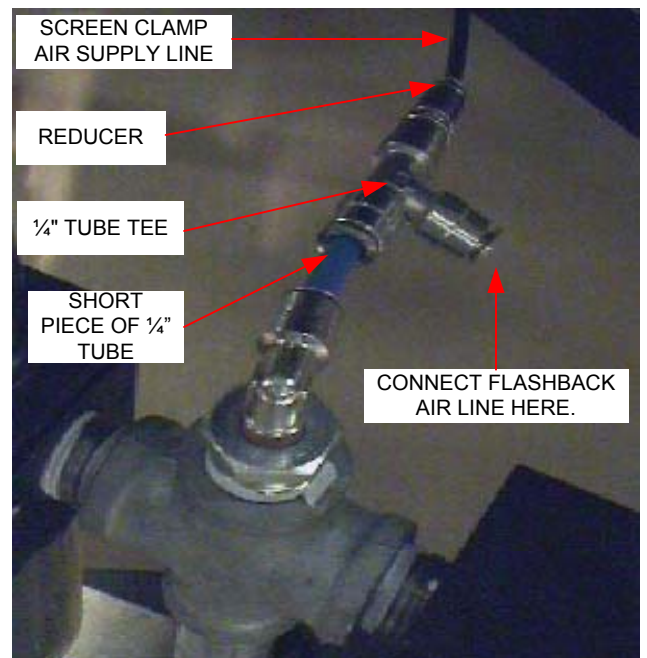

FIG. 2
2. INSTALL THE ¼" TEE CONNECTOR THAT WAS SUPPLIED WITH THE FLASHBACK. SOME PRESSES MAY ALREADY HAVE THE ¼" TEE INSTALLED AND PLUGGED. (FIG. 2)